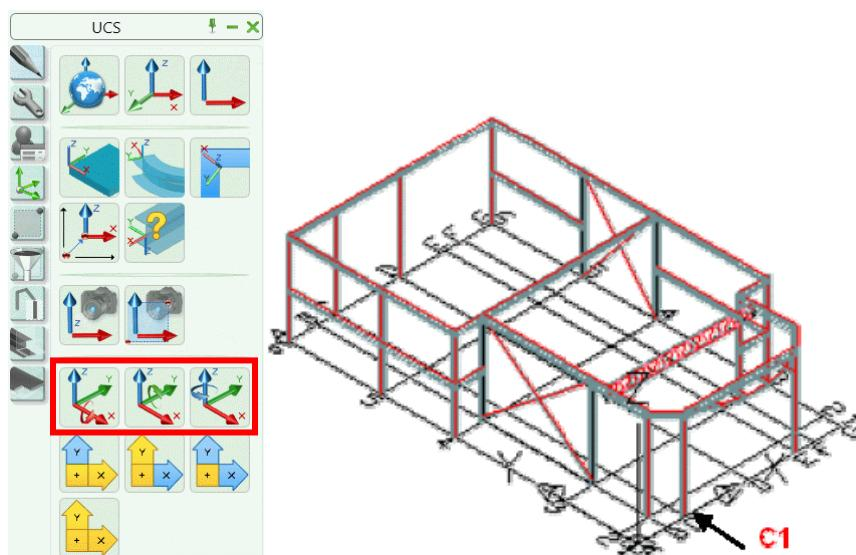

Figure 100: Placing the UCS in a suitable position
3. Next, rotate the UCS by X and by Y so that the XY plane is in the grid plane as in Figure 100.